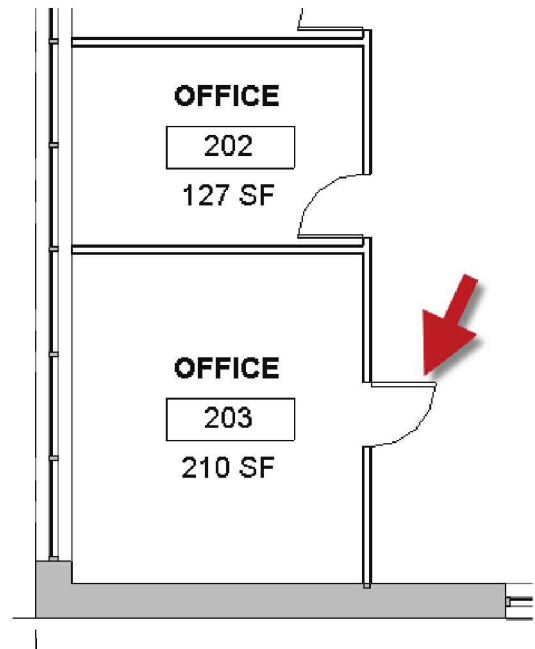

FIGURE 17-4.16 User B moved door
33. **USER B:** Try moving the door to the center of the room (Figure 17-4.16).